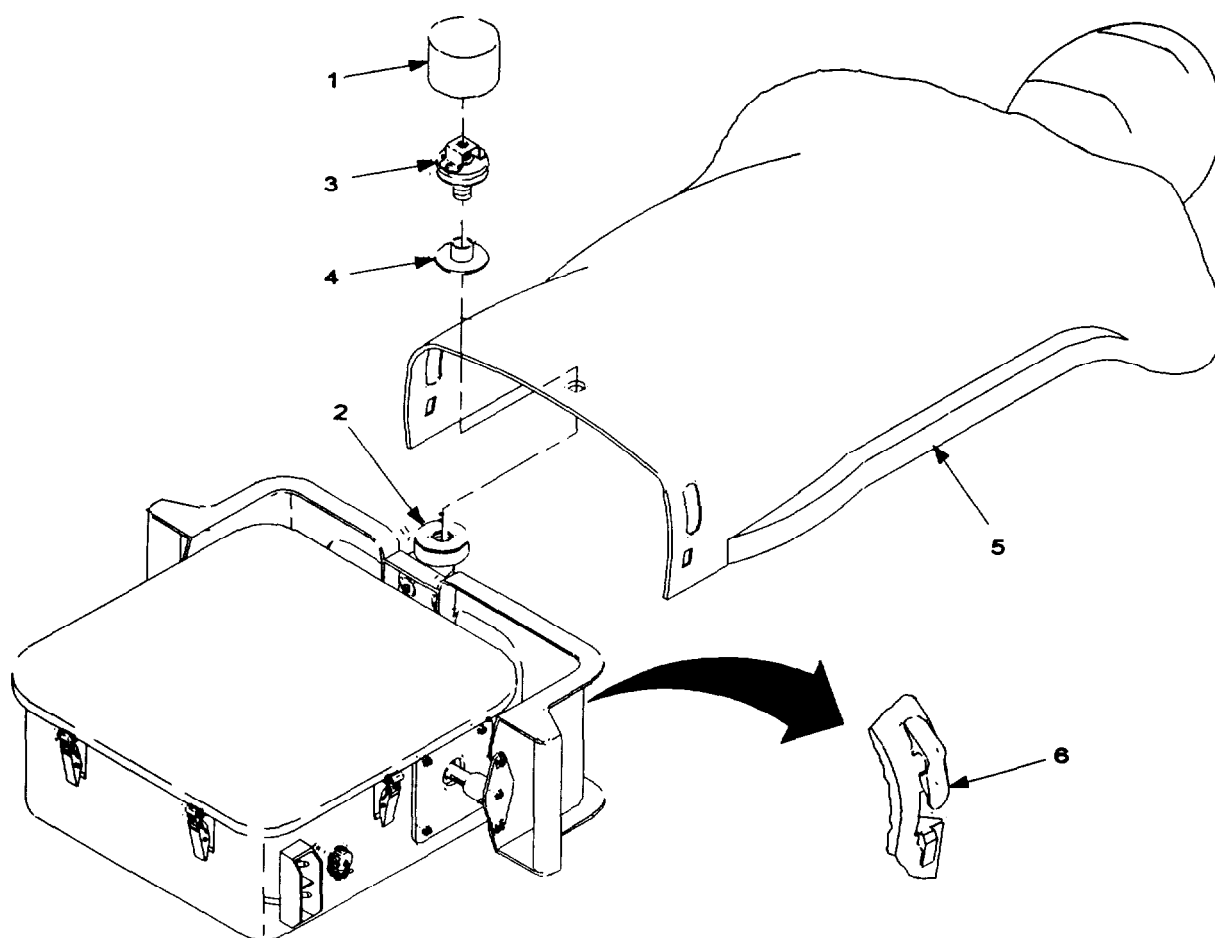

Figure 2-6. Installation of Target on ITM.
- (26) Refer to figure 2-6. Remove hit sensor shield (1) from hit sensor assembly (2) on ITM.
- (27) Loosen capscrew (part of hit sensor clamp assembly) and remove hit sensor clamp assembly (3) and spacer (4) from hit sensor assembly.